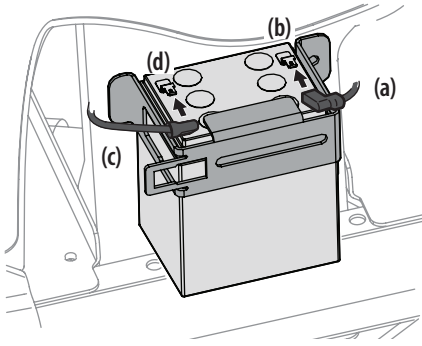

Figure 16
1. Plug the red cable (a) into the positive battery terminal (b). See Figure 16 on page 13.
2. Plug the black cable (c) into the negative battery terminal (d). See Figure 16 on page 13.